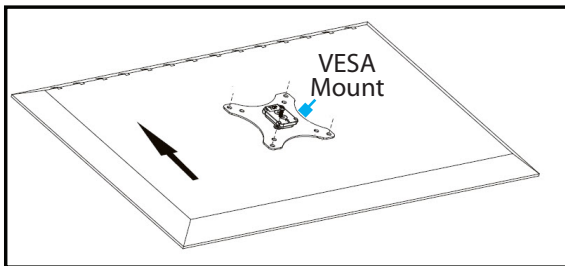

Figure 13
4. Align the **Screw Holes** on the **VESA Mount** with the **VESA Mounting Holes** on the back of the **Monitor**. The **VESA Mount** can support a 75 x 75 or 100 x 100 mounting pattern. (Figure 13)